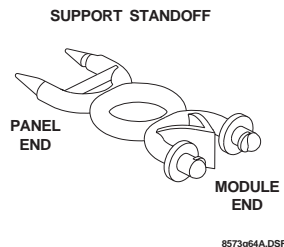

Figure 5. Support Standoff
3. Insert a support standoff as shown in Figure 5 (supplied with panel) into the panel circuit board.